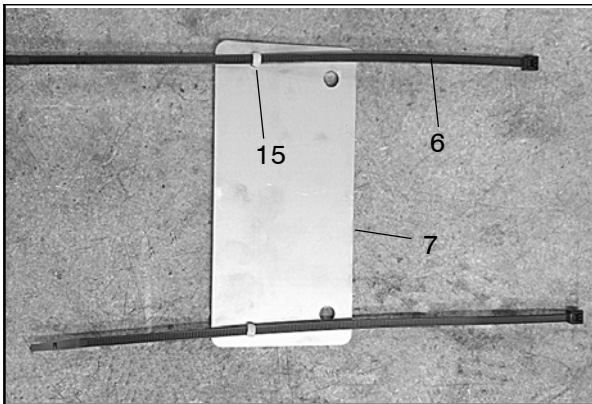

Fig. 9
12. Install two wire tie clips (15) and two wire ties (6) onto the shunt bracket (7). (Fig. 9)